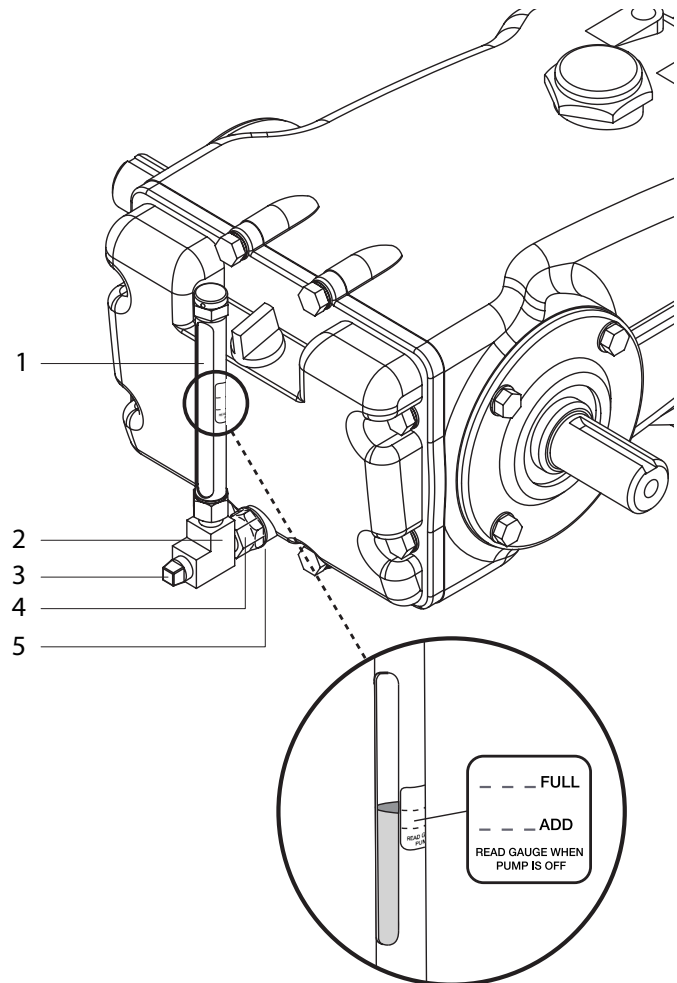

Figure 1
3. Install 1/4" BSP fitting (Figure 1, item 4) with o-ring (5) into rear cover of pump.
4. Thread in tee (2) to fitting (4).
5. Thread in square end plug (3) into tee (2).
6. Thread in crankcase oil level indicator (1) into open port of vertical leg of tee (2).
1. Ensure square end plug (3) is installed at end of tee (2).
3. Fill pump to capacity as stated in pump data sheet. Add an additional .25 oz of oil to fill crankcase oil level indicator (1) to center of indicator.
5. Position silver label on crankcase oil level indicator (1) so that the "FULL" line is level with the oil when pump is not running (Figure 1).
1. Ensure square end plug (5) is installed in union fitting (6)
3. Fill pump to capacity as stated in pump data sheet. Add an additional 2 oz. of oil to fill crankcase oil level indicator (1) and drain hose (8) to center of indicator.
5. Position silver label on crankcase oil level indicator (1) so that the "FULL" line is level with the oil when pump is not running (See Fig. 1)